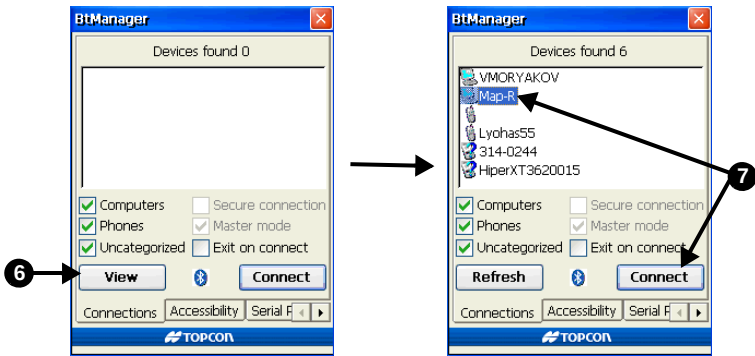

Figure 3-6. View Devices and Connect
- Tap the *Connections* tab and tap **View** to detect Bluetooth devices in range (Figure 3-6 on page 3-5).
7. Once the Devices list has been populated, select the device to connect to and tap **Connect** (Figure 3-6).